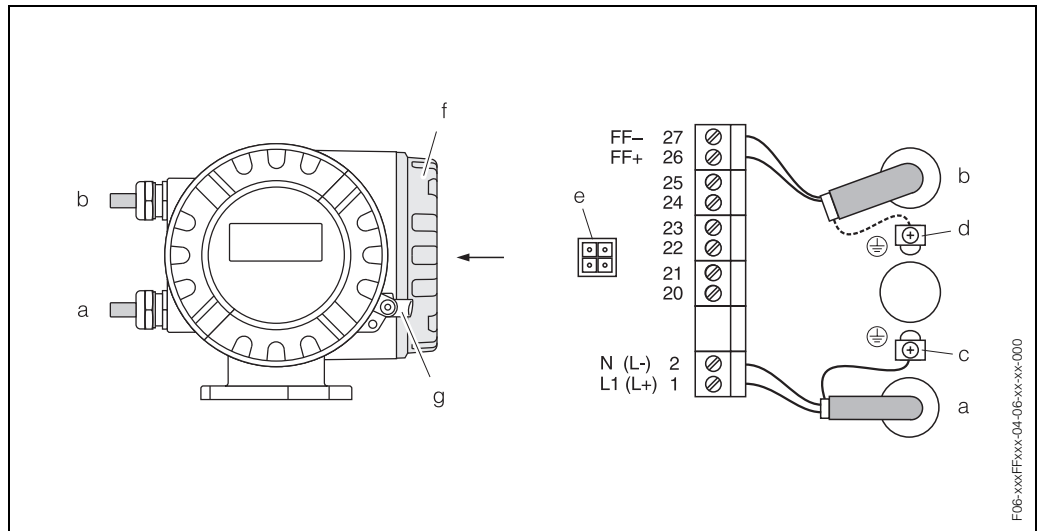

Fig. 32: Connecting the transmitter (aluminium field housing). Cable cross-section: max. 2,5 mm²
Procedure (see Fig. 32, 33, 34):
- Wiring diagram (aluminium housing) → Fig. 32